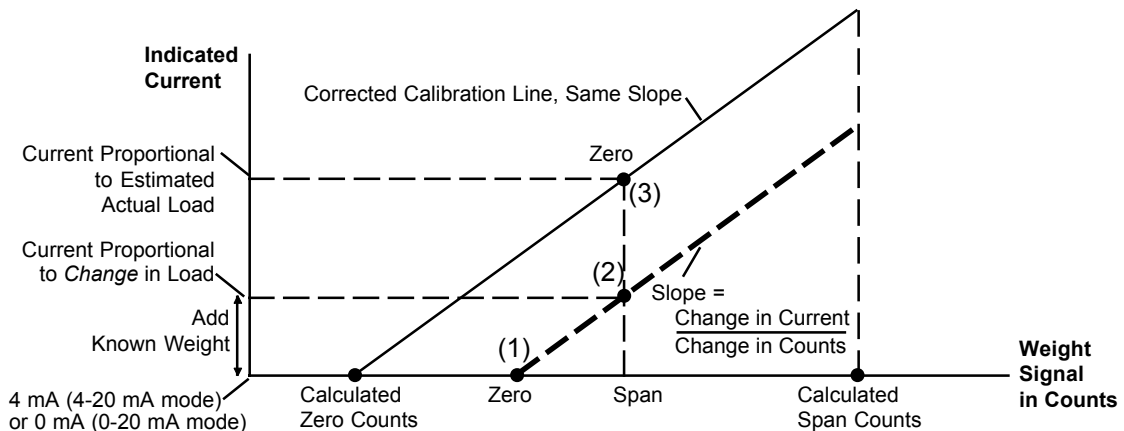

Figure 3-3. Calibration by Adding a Known Quantity of Material
Zero [point (1) in Figure 3-3] is set to the low current output (4 mA or 0 mA). A known quantity of material, representing at least 25% of the vessel's total capacity, is added to the vessel. Span [point (2) in Figure 3-3] is set to a current output proportional to the **change** in weight. Points 1 and 2 define the dashed straight line. The slope of the line is called the Scale Factor, which is calculated internally. Zero [point (3) in Figure 3-3] is then set to a current output proportional to the estimated amount of material in the vessel, adjusting the 'location' of the line to the solid line.
The principle is similar to that for calibrating by adding a known quantity of material. However, the procedure requires you to first reverse the excitation (half-bridge sensors) or input (full-bridge sensors). Zero [point (1) in Figure 3-3] is set to the low current output (4 mA or 0 mA). A known quantity of material, representing at least 25% of the vessel's total
capacity, is removed from the vessel. Span [point (2) in Figure 3-3] is set to a current output proportional to the **change** in weight. Points 1 and 2 define the dashed straight line. The slope of the line is called the Scale Factor, which is calculated internally. The sensor excitation (half-bridge sensors) or input (full-bridge sensors) is then returned to the normal setting. Zero [point (3) in Figure 3-3] is then set to a current output proportional to the estimated amount of material in the vessel, adjusting the 'location' of the line to the solid line.